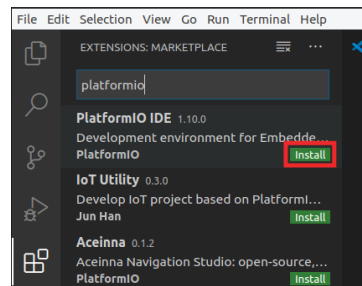

Figure 96. PlatformIO IDE Extension
4. Type *PlatformIO* in the search box and install the PlatformIO *IDE* by clicking on the install button next to it (see Figure 96).